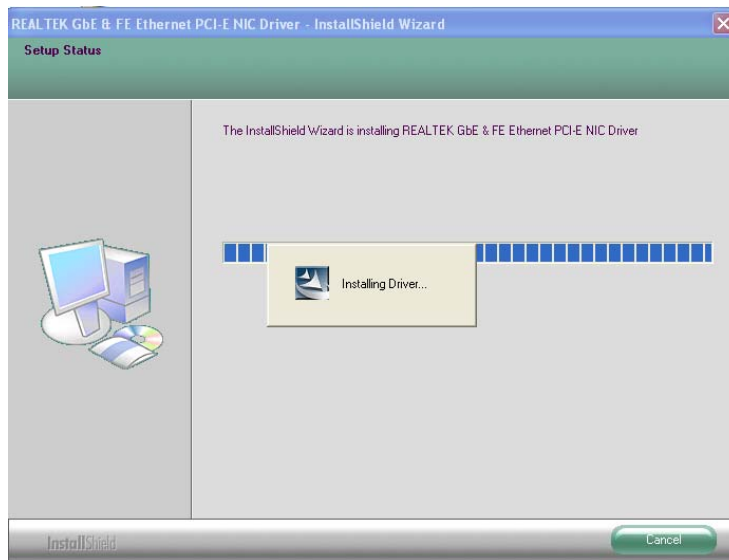

Figure 5-17: LAN Driver Setup Status Screen
Step 9: The **Setup Status** screen in **Figure 5-17** appears.